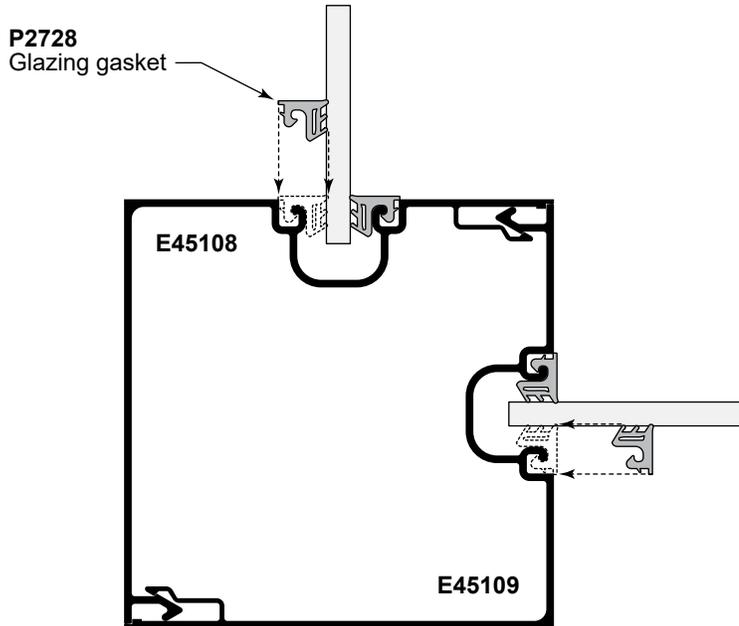

Fig. 42.1
A. Install exterior gaskets at corner assembly as shown in **Fig. 42.1**.